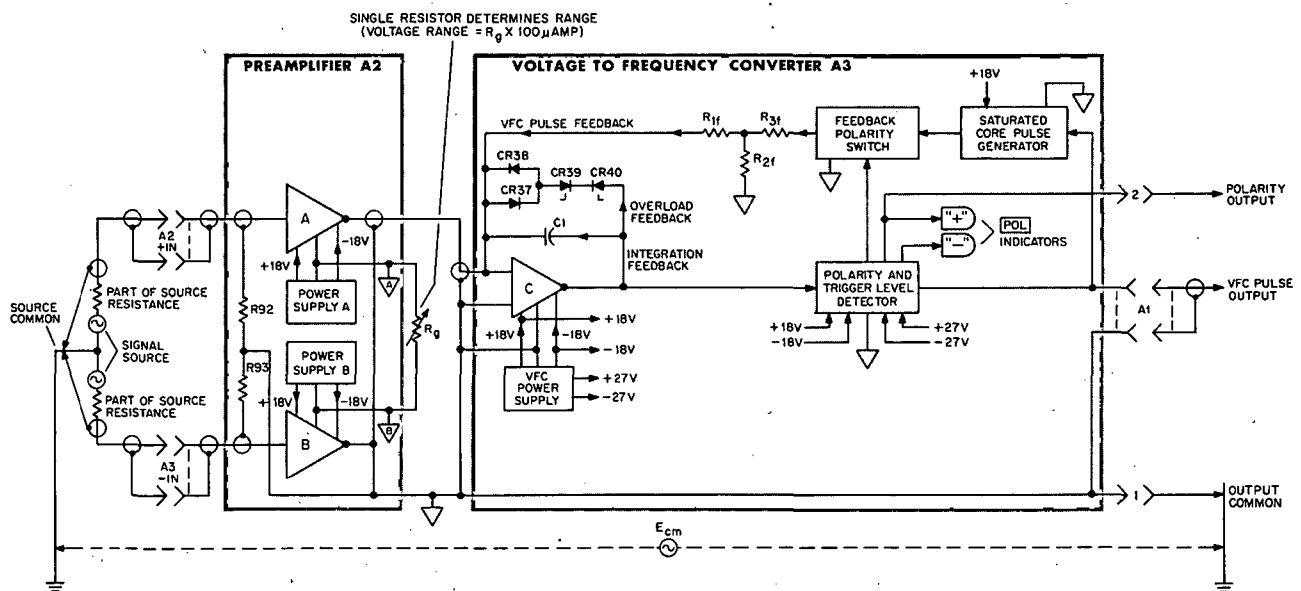

Figure 3-1. 2212A VFC Functions
3-4. The functional elements of the 2212A vfc are shown in Figure 3-1. Amplifiers A and B, with gain-bandwidth products characteristic of operational amplifiers, serve as the differential input preamplifier of the 2212A. They supply drive current to amplifier C that is directly proportional to the differential input voltage and inversely proportional to the value of R_g . Amplifier C is also operational, and similar in design to amplifiers A and B. Capacitor C1 from output to input connects amplifier C as a linear integrator.
1. An integrator (amplifier C in Figure 3-1).